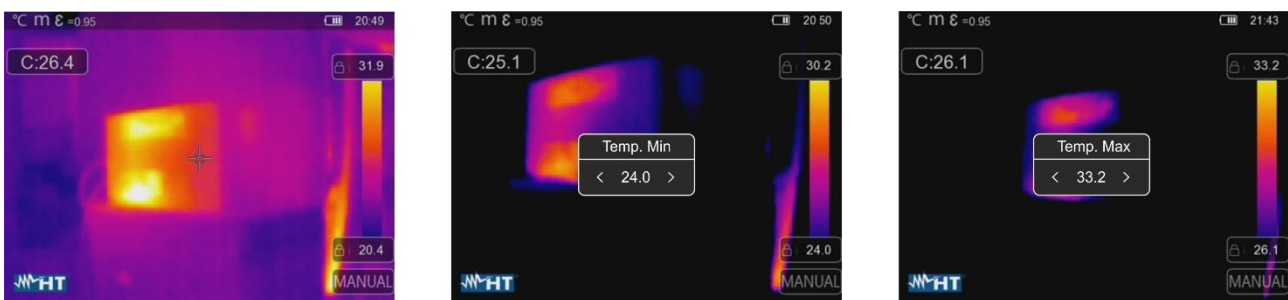

Fig. 45: Setting the Manual mode
3. Touch the icon in the low level bar and use the arrow keys < o > to set the temperature values associated with the low level by steps of 0.1°C at the same time (see Fig. 45 – middle) to block the set temperature values
5. Touch the icon “” in the high level bar and use the arrow keys < o > to set the temperature values associated with the high level by steps of 0.1°C at the same time (see Fig. 45 – right side) to block the set temperature values